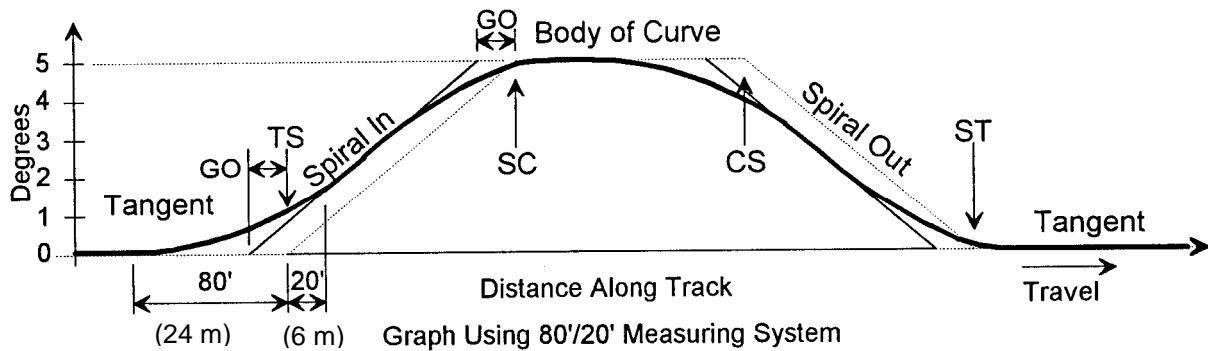

Figure A-11 Graph Using 80'/20' (24 m/6 m) Measuring System
Finally, let's look at the same curve and graph produced by our example measuring and lining system, with the dimensions of eighty (80) feet (24 m) from the Projector to the Shadowboard and twenty (20) feet (6 m) from the Shadowboard to the Receiver. In Figure A-11 the graph produced by this system is shown by a solid line with the graph from our one foot measuring device shown dotted again for reference.